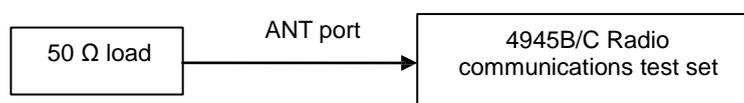

Fig. 6-12 Block diagram for average noise level test of sweep spectrum analysis
1) As shown in Fig. 6-12, connect the test instrument, set 4945B/C to the sweep spectrum mode with the center frequency of 300 MHz, zero sweep, the reference level of -70 dBm, the attenuation of 0 dB, the resolution bandwidth of 30 Hz, and enable video averaging and set the averaging times to 10;